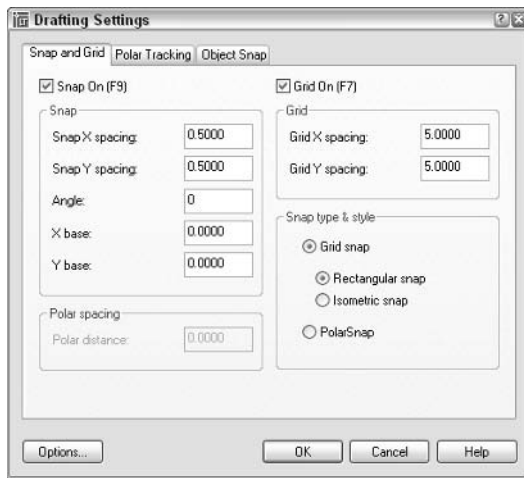

Figure 4-3:
The Snap and Grid tab of the Drafting Settings dialog box appears, as shown in Figure 4-3.
9. Change the values in the dialog box, as shown in Figure 4-3: Snap On checked, Grid On checked, Snap X Spacing and Snap Y Spacing set to 0.5, and Grid X Spacing and Grid Y Spacing set to 5.